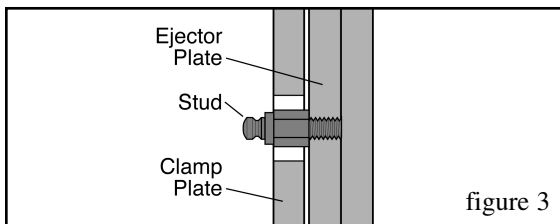

figure 3
1. Install studs into the mold ejector plate. See figure 3. If the press has a non-adjustable ejector home position, insert washers under the stud so the shoulder is flush with the back face of the mold clamp plate. Use a thread-locking compound where threaded parts connect to prevent movement during use.
1. Install studs into the mold ejector plate. See figure 3. Use a thread-locking compound where threaded parts connect to prevent movement during use.